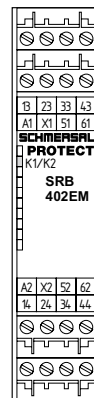

Fig. 1
**Single-channel control at terminal A1 of the SRB402EM expander module through a safety release of the basic module (Fig. 1)**